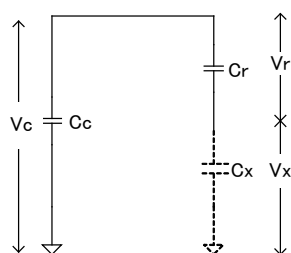

Figure 3-2 Process(4), (5) equivalent circuit
- (5) The voltage of C_x is compared with V_{ref} with a comparator.
For the process (4), (5), the equivalent circuit is shown in Figure 3-2. The voltage C_r and C_x must equalize to the voltage on C_c . The charge of C_c distributes to C_x and C_r . The relationship of voltages V_r , V_c , V_x and capacitance, C_c , C_r , and C_x are as follows.